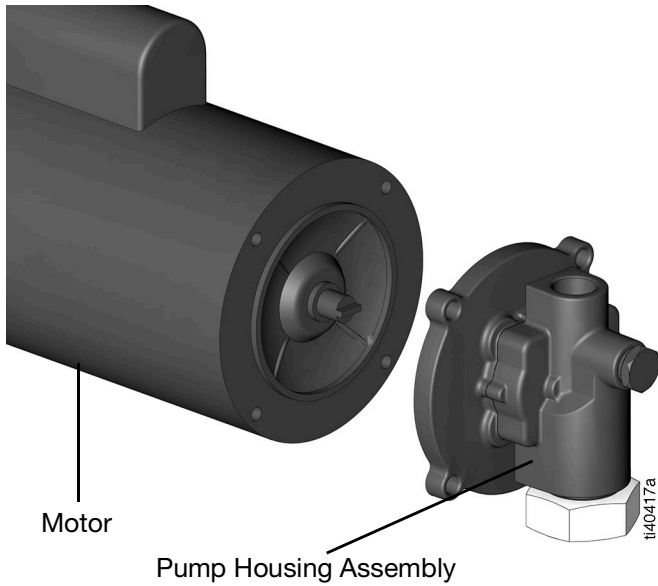

FIG. 5
6. Remove the pump housing assembly from the motor (FIG. 5).